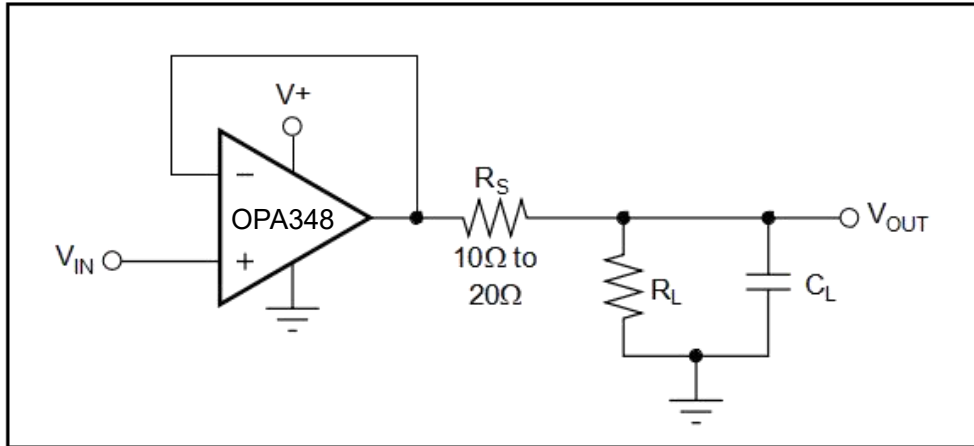

FIGURE 5. Series Resistor in Unity-Gain Buffer Configuration Improves Capacitive Load Drive.
The OPA348 in a unity-gain configuration can directly drive up to 250pF pure capacitive load. Increasing the gain enhances the amplifier's ability to drive greater capacitive loads (see the typical characteristic "Small-Signal Overshoot vs Capacitive Load"). In unity-gain configurations, capacitive load drive can be improved by inserting a small (10Ω to 20Ω) resistor, R_S , in series with the output, as shown in Figure 5. This significantly reduces ringing while maintaining DC performance for purely capacitive loads. However, if there is a resistive load in parallel with the capacitive load, a voltage divider is created, introducing a Direct Current (DC) error at the output and slightly reducing the output swing. The error introduced is proportional to the ratio R_S/R_L , and is generally negligible.